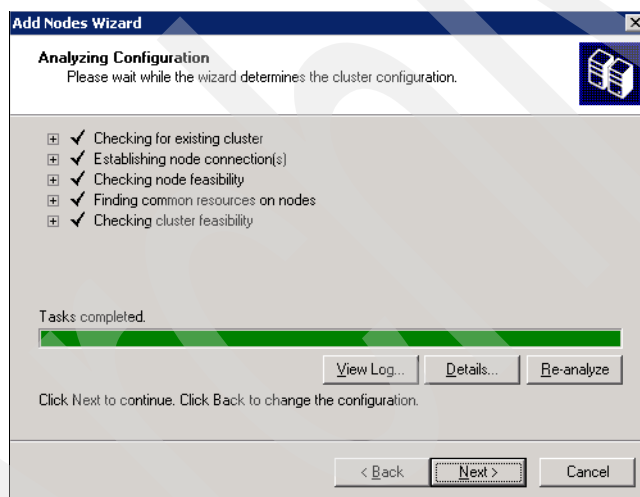

Figure 25-42 Analyzing Configuration
8. The wizard now performs the cluster diagnostic test for this node (Figure 25-42). Click **Next** when the test has completed successfully.